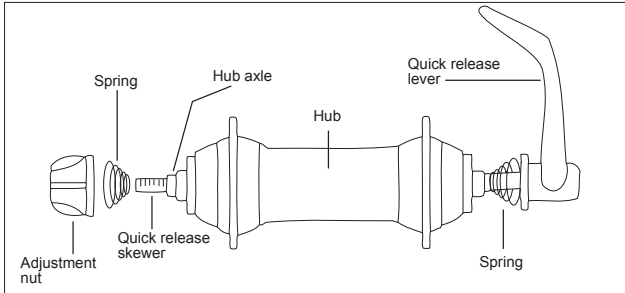
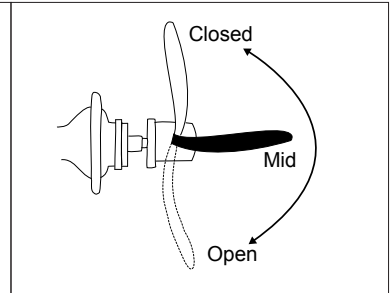

Fig. 55: Traditional quick release; diagram of parts.
Fig. 56: Positions of a quick release.
1. Move the quick release lever to the OPEN position (Fig. 56) and set the wheel so it fully engages the frame dropouts.
2. With the lever in the MID position (Fig. 56), tighten the adjusting nut (Fig. 55) until it is slightly tight.
3. Move the quick release into the closed position (Fig. 56) with the palm of your hand.
1. Open quick release lever (Fig. 56).